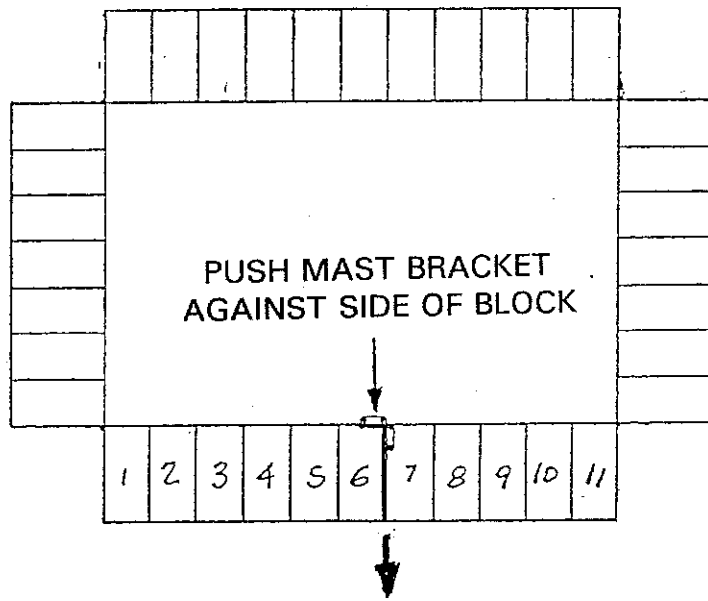

FIGURE 2.1-3
- STEP 2:** Place the first 11 concrete blocks and mast support bracket on the South side of the site, as shown in figure 2.1-3, with the mast bracket sandwiched between the sixth and seventh blocks.